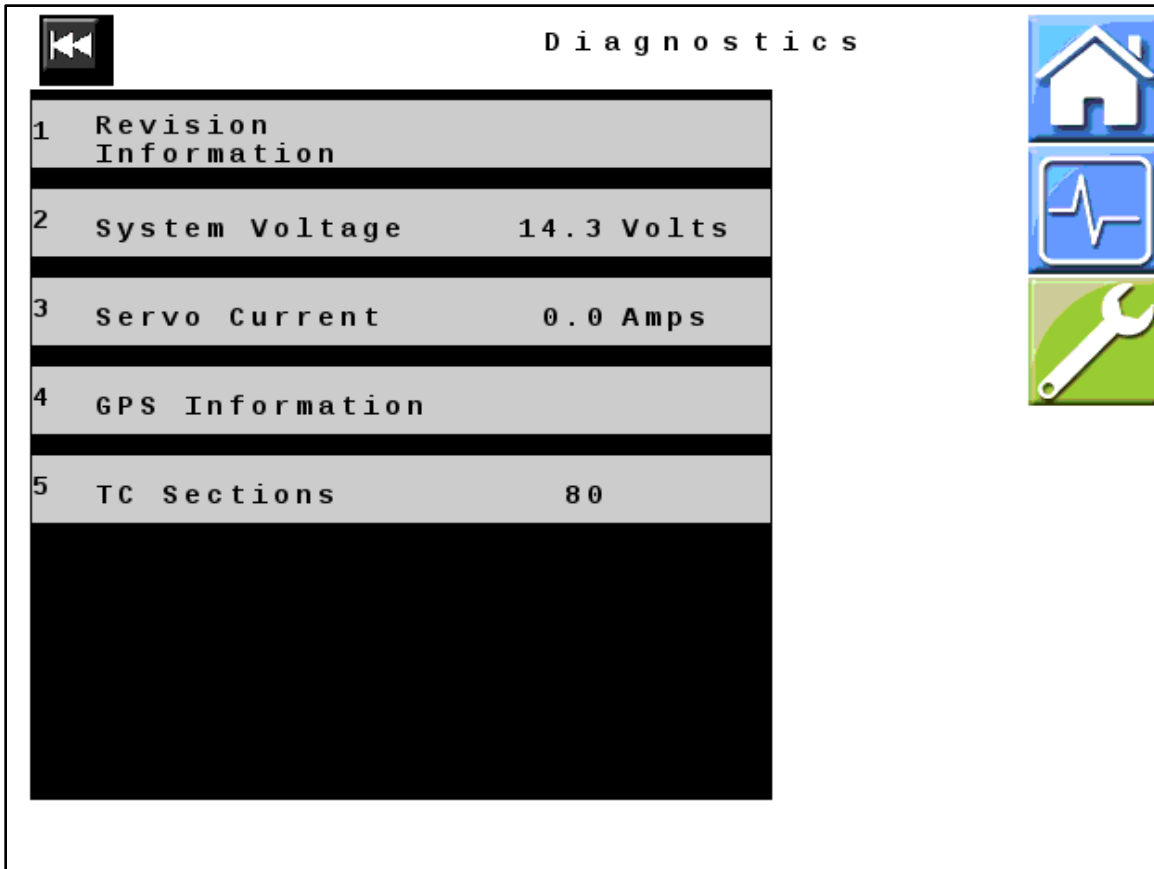

Figure 10 — Diagnostics
18. *Figure 10:* Verify that the data displayed in these fields on your unit correctly matches your machine's specifications.